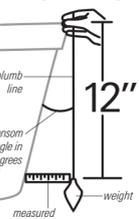

Figure 10
- 1b. **If you do not know your transom angle,** measure it using a plumb line (weighted nylon string or monofilament line) exactly 12 inches long. Hold the top of the plumb line against the top of the transom with your finger, and wait until the line hangs straight down (Figure 10). Using a ruler, measure the distance from the **bottom** of the plumb line to the back of the transom, then use the chart (Figure 9).
NOTE: It is important to take your measurement in the location shown in Figure 10, from exactly 12 inches (30.48 cm) down from the top of the transom.